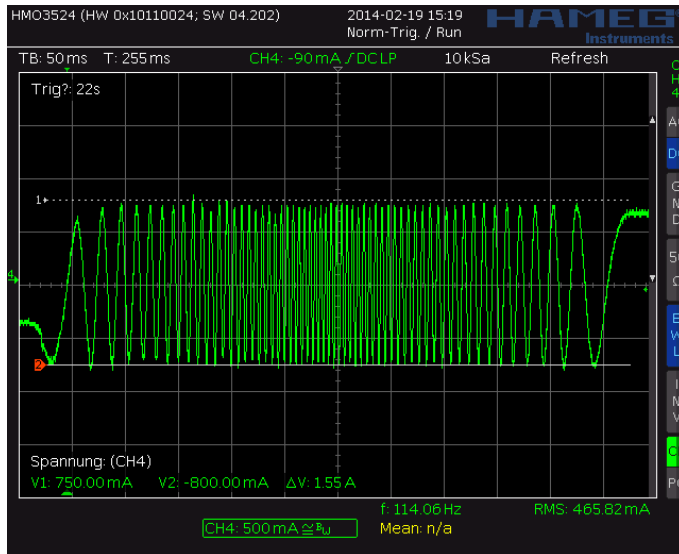
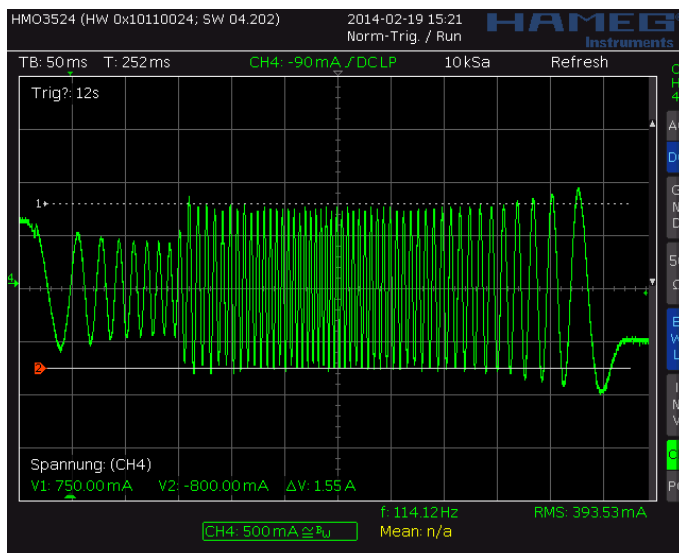
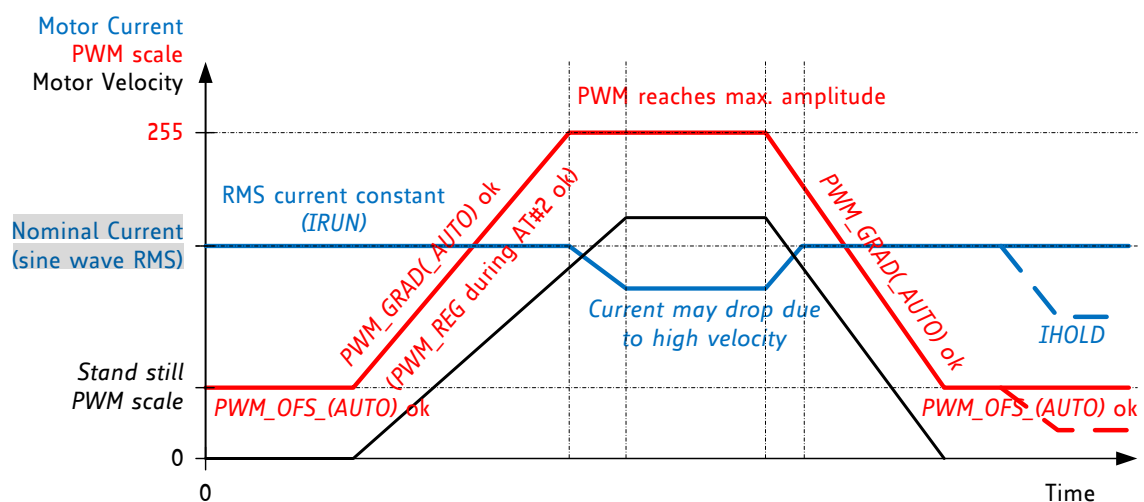

Figure 6.3 Scope shot: good setting for PWM_REG
Figure 6.4 Scope shot: too small setting for PWM_REG during AT#2
Figure 6.5 Successfully determined PWM_GRAD(AUTO) and PWM_OFS(AUTO)
In StealthChop voltage PWM mode, the autoscaling function (*pwm_autoscale* = 1, *pwm_autograd* = 1) regulates the motor current to the desired current setting. Automatic scaling is used as part of the automatic tuning process (AT), and for subsequent tracking of changes within the motor parameters. The driver measures the motor current during the chopper on time and uses a proportional regulator to regulate *PWM_SCALE_AUTO* in order match the motor current to the target current. *PWM_REG* is the proportionality coefficient for this regulator. Basically, the proportionality coefficient should be as small as possible in order to get a stable and soft regulation behavior, but it must be large enough to allow the driver to quickly react to changes caused by variation of the motor target current (e.g. change of *VREF*). During initial tuning step AT#2, *PWM_REG* also compensates for the change of motor velocity. Therefore, a high acceleration during AT#2 will require a higher setting of *PWM_REG*. With careful selection of homing velocity and acceleration, a minimum setting of the regulation gradient often is sufficient (*PWM_REG*=1). *PWM_REG* setting should be optimized for the fastest required acceleration and deceleration ramp (compare Figure 6.3 and Figure 6.4). The quality of the setting *PWM_REG* in phase AT#2 and the finished automatic tuning procedure (or non-automatic settings for *PWM_OFS* and *PWM_GRAD*) can be examined when monitoring motor current during an acceleration phase Figure 6.5.